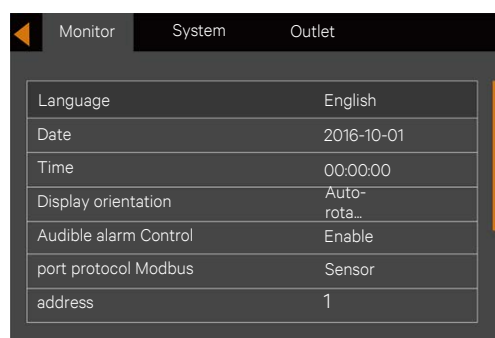

Figure 5-11 Monitor interface
2. Press the  key to move the cursor to 'Monitor', see Figure 5-11.